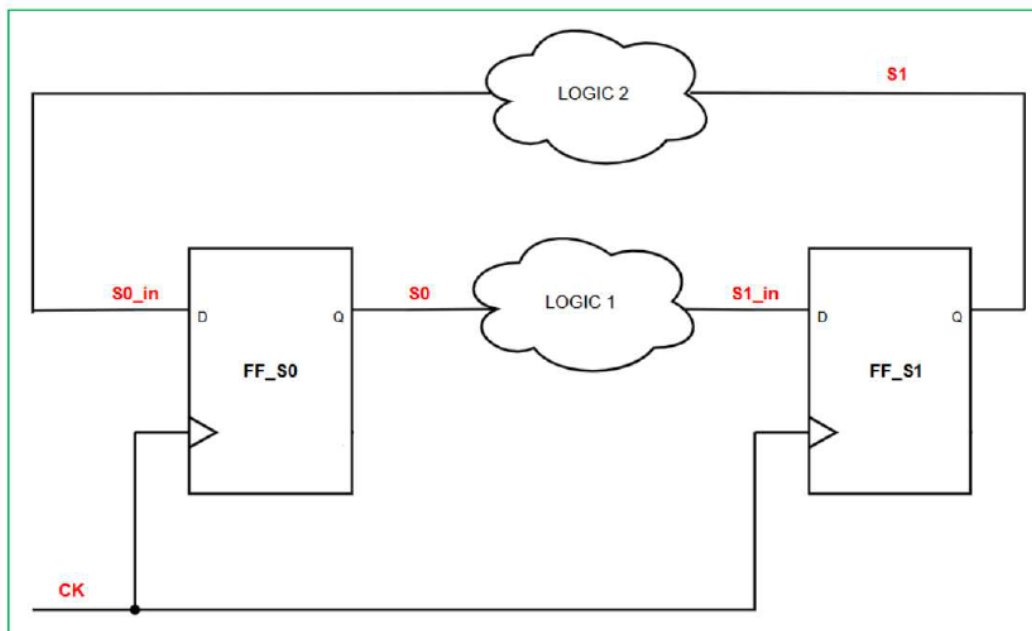

Figure 22. The diagram of FF_S0 and FF_S1
- Students should write the timing equations to calculate the setup time sim and hold time sim of each flip-flop. **Pay careful attention to the clock lunch and clock capture paths for FF_S0 and FF_S1. Please refer the detail in Figures 22, 23 and 24.**